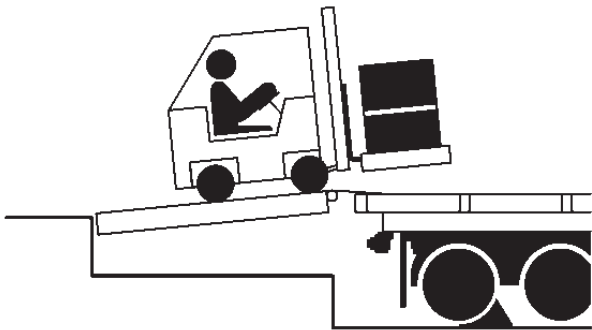

Figure 20
5. Proceed with loading or unloading the transport vehicle (see Figure 20).